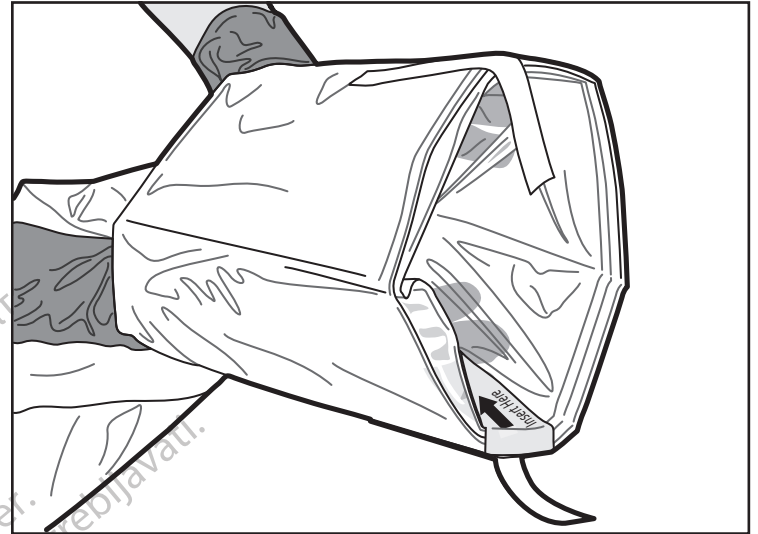

Figure 3. Opening the Bag
4. The sterile operator places their hands into the innermost folds of the bag, opening the bag for MDU5 PLUS Motordrive Unit placement by the non-sterile operator. The "Insert Here" sticker can be used to easily locate the bag opening (Figure 3).